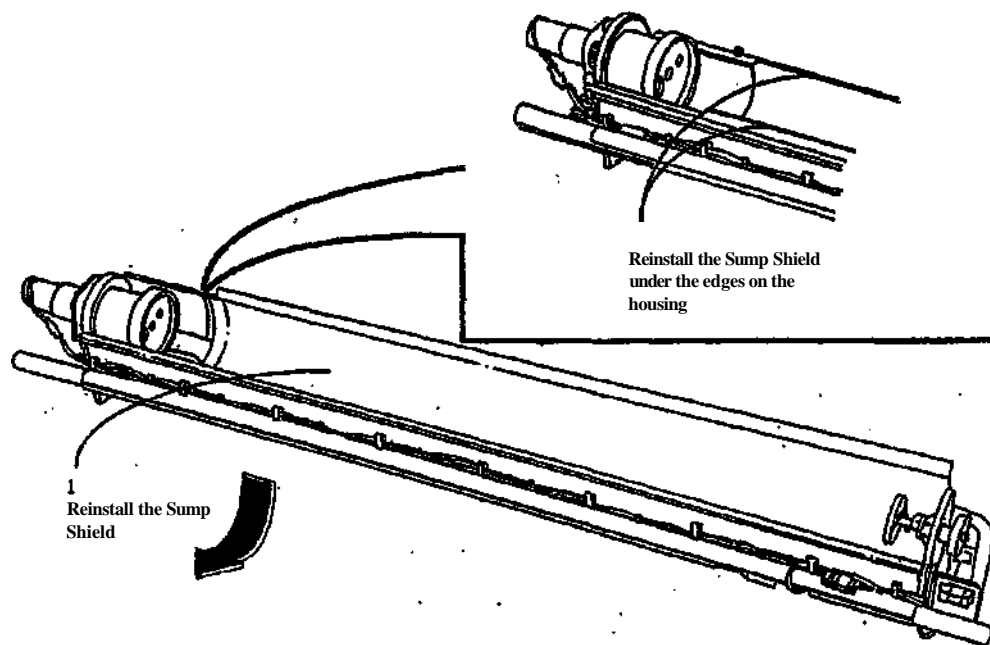

Figure 6. Reinstalling the Sump Shield in the Developer Module
3. (Figure 6): Reinstall the Sump Shield in the Developer Module.